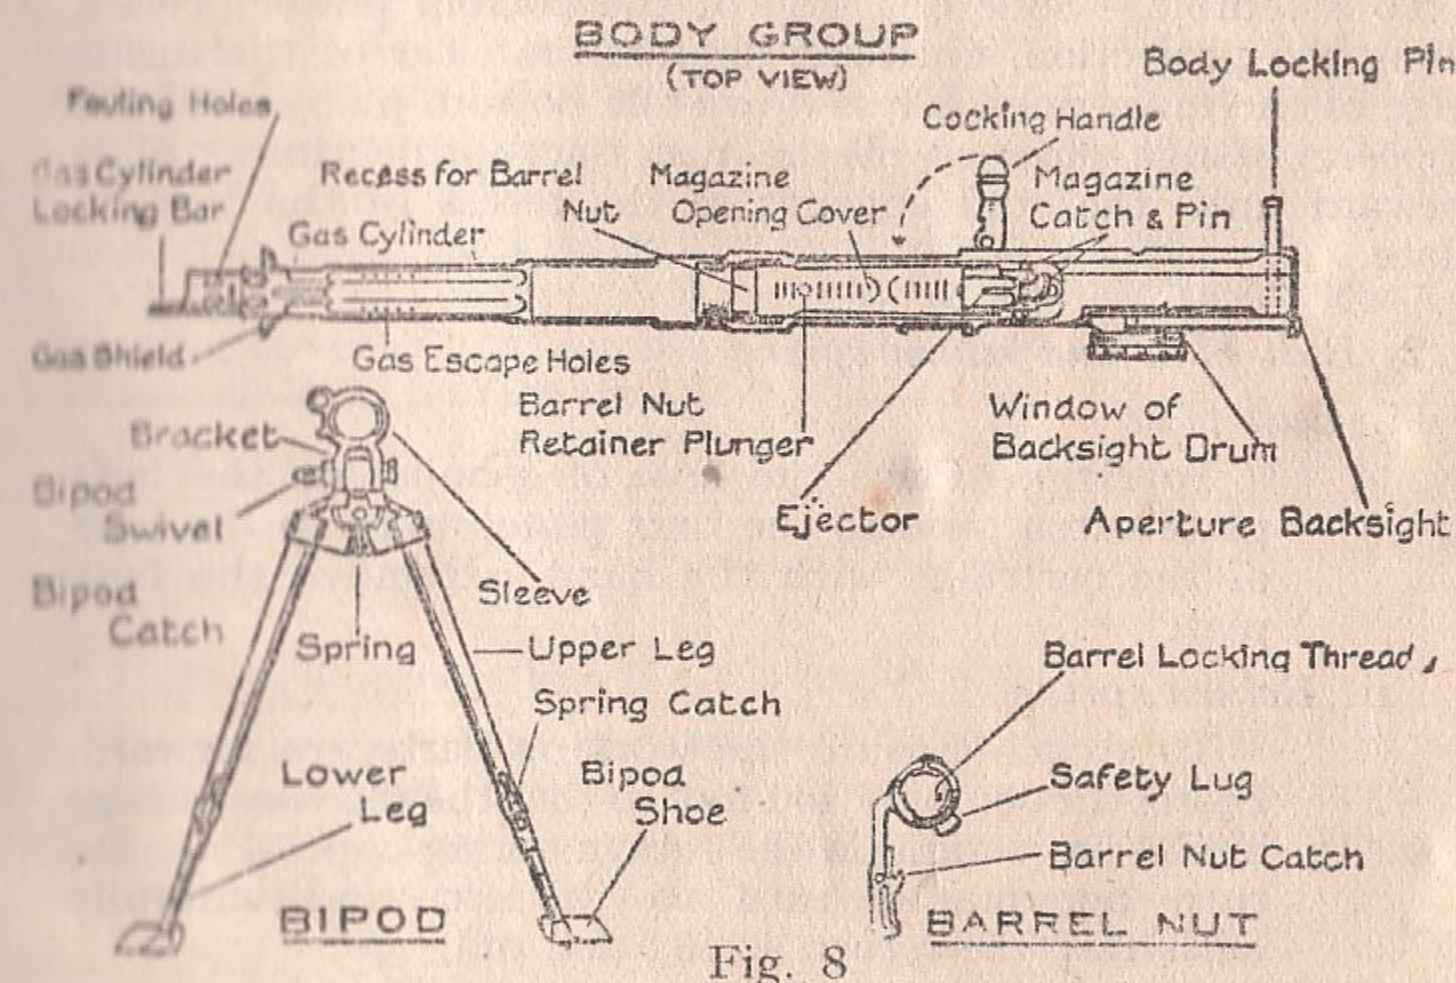

Fig. 8
- Name principal parts of body group and bipod (see Fig. 8).